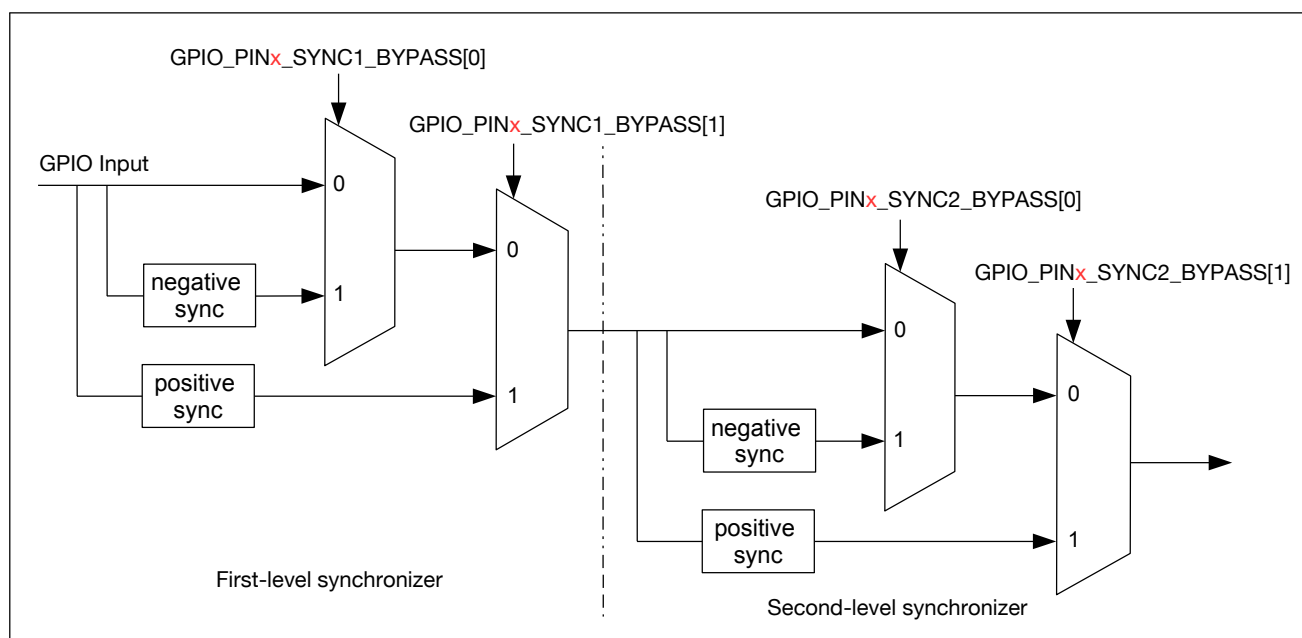

Figure 8.4-1. GPIO Input Synchronized on Rising Edge or on Falling Edge of HP IO MUX Operating Clock
Only HP GPIO matrix supports this signal synchronization function. Figure 8.4-1 shows the functionality of GPIO SYNC. In the figure, negative sync and positive sync mean GPIO input is synchronized on falling edge and on rising edge of HP IO MUX operating clock respectively.
The synchronization function is disabled by default by the synchronizer. But when an asynchronous peripheral signal is connected to the pin, the signal should be synchronized by the two-level synchronizer (i.e., the first-level synchronizer and the second-level synchronizer as shown in Figure 8.4-1) to lower the probability of causing metastability.
- Set `GPIO_PIN $x$ _SYNC1_BYPASS` to enable input signal synchronized on rising edge or on falling edge in the first-level synchronization, see Figure 8.4-1.
- Set `GPIO_PIN $x$ _SYNC2_BYPASS` to enable input signal synchronized on rising edge or on falling edge in the second-level synchronization, see Figure 8.4-1.